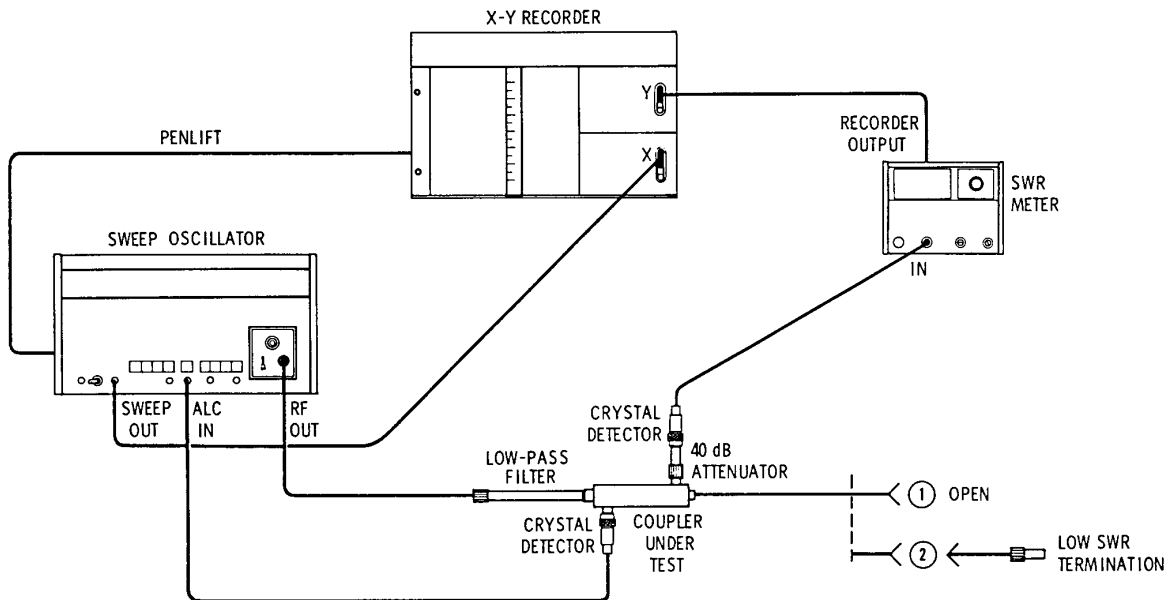

Figure 7 Swept-Frequency Directivity Test Setup
Description Refer to Figure 7 for test setup and Table 2 for test equipment.
1. Connect equipment as shown at (1) in **Figure 7**.
- a. Connect the termination as shown in (2) in **Figure 7**. Note that this termination must have an $SWR \leq 1.01$. Do *not* use adapters, which will increase SWR, with this termination. If adapters are used, the results will be degraded.